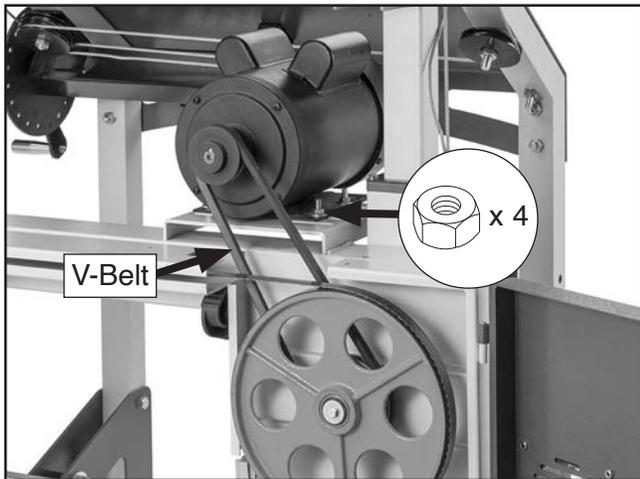

Figure 105. Location of V-belt and motor mounting hex nuts.
- Loosen (4) motor mounting hex nuts (see **Figure 105**) to release belt tension.